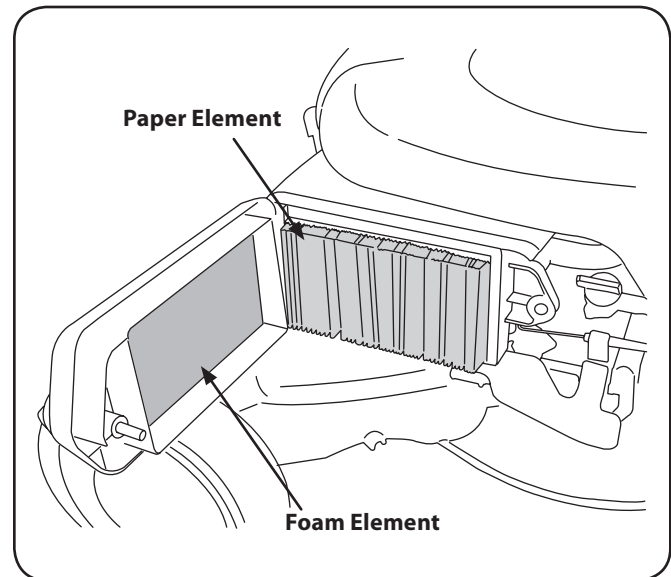

Figure 10-2
1. Remove the wing bolt and the air cleaner cover. Remove the elements and separate them. See Fig. 10-2. Replace paper element when dirty or damaged. Clean foam element or replace when damaged.